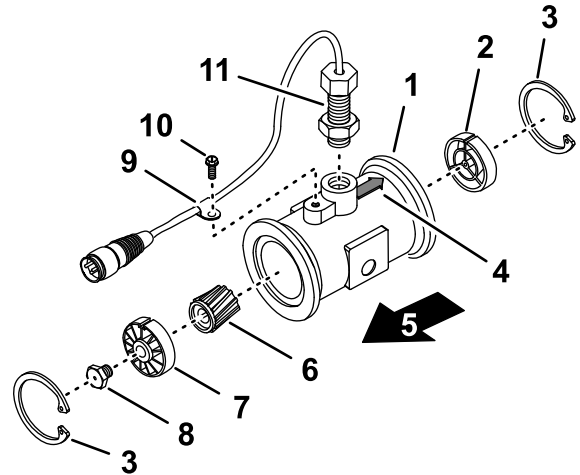

Figure 106
3. Remove the retainer ring on the upstream side (Figure 106).